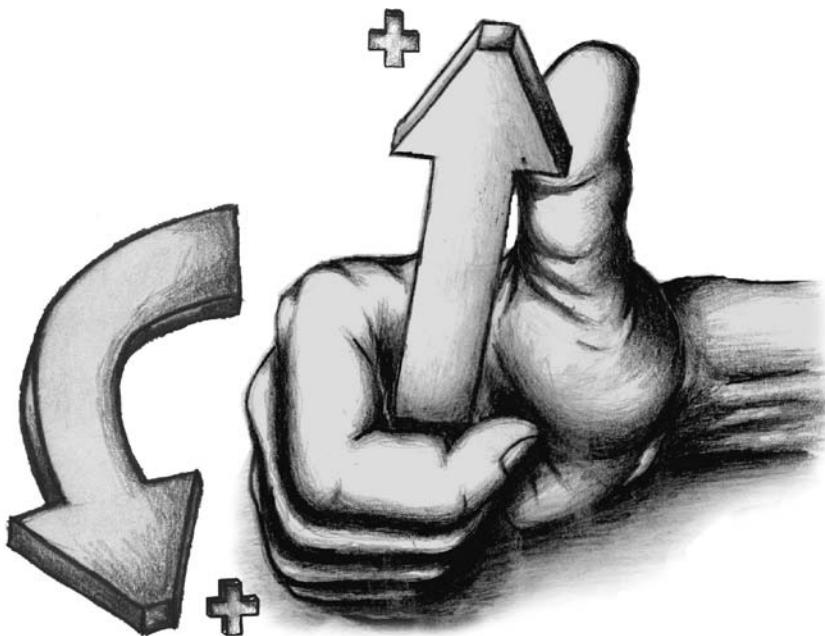

FIGURE 16.34 The right-hand rule as it applies to rotations
When you rotated objects in a 2D environment, all the rotations were perpendicular to the screen and you never had to consider the axis around which the object was rotating. Because all 2D rotations happened in the XY plane, the objects were rotated around the z-axis. Positive rotations were in the counter-clockwise direction, and negative rotations were clockwise. In 3D, however, rotation can occur around any axis and you need to understand whether a rotation should be in the positive or negative direction. Use the second right-hand rule to understand how the rotation direction is identified in a 3D environment. It states that if you grasp an axis with your right hand with your thumb pointing in the positive direction, then your fingers will be curled in the positive rotation direction. Figure 16.34 illustrates this concept.
5. Imagine your right hand gripping the blue axis line with your thumb pointing upward, as in the hand shown in Figure 16.34. This shows you that a positive rotation, the direction your fingers are pointing in, is required to rotate the window counterclockwise.